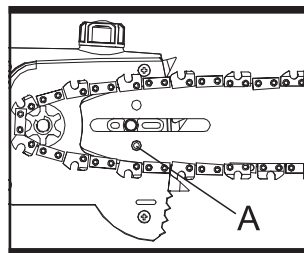

Fig. 4
e). Mount the guide bar and saw chain assembly over the sprocket and align the slot in the guide bar with the rail. Push the guide bar to the left towards the sprocket. Make sure the tension pin is inserted into the lower hole (A) on the guide bar. (See Fig.4)